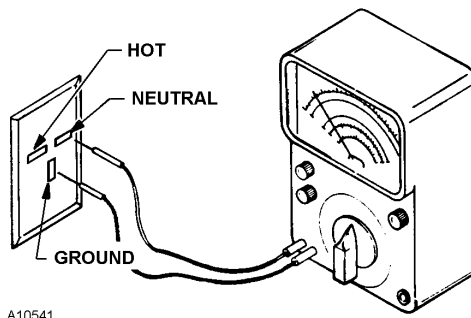

Figure 1. 230 Volt Outlet
1. **Voltage Check:** With a Volt-Meter set to check AC line voltage, insert one connector to the **HOT** terminal and the other connector to the **NEUTRAL** terminal. The voltmeter should indicate 207 to 253 Volts AC. See Figure 1.
2. **Polarity and Ground Check:** With a Volt-Meter set to check AC line voltage, insert one connector to the **HOT** terminal and the other connector to the **GROUND** terminal. The voltmeter should indicate 207 to 253 Volts AC. See Figure 1.
NOTE The GROUND pin is the slot that is positioned perpendicular to the other two slots. In a standard three (3) prong 230 volt wall outlet the NEUTRAL pin is located counter-clockwise from the ground pin and the HOT pin is located clockwise from the ground pin. See Figure 1.